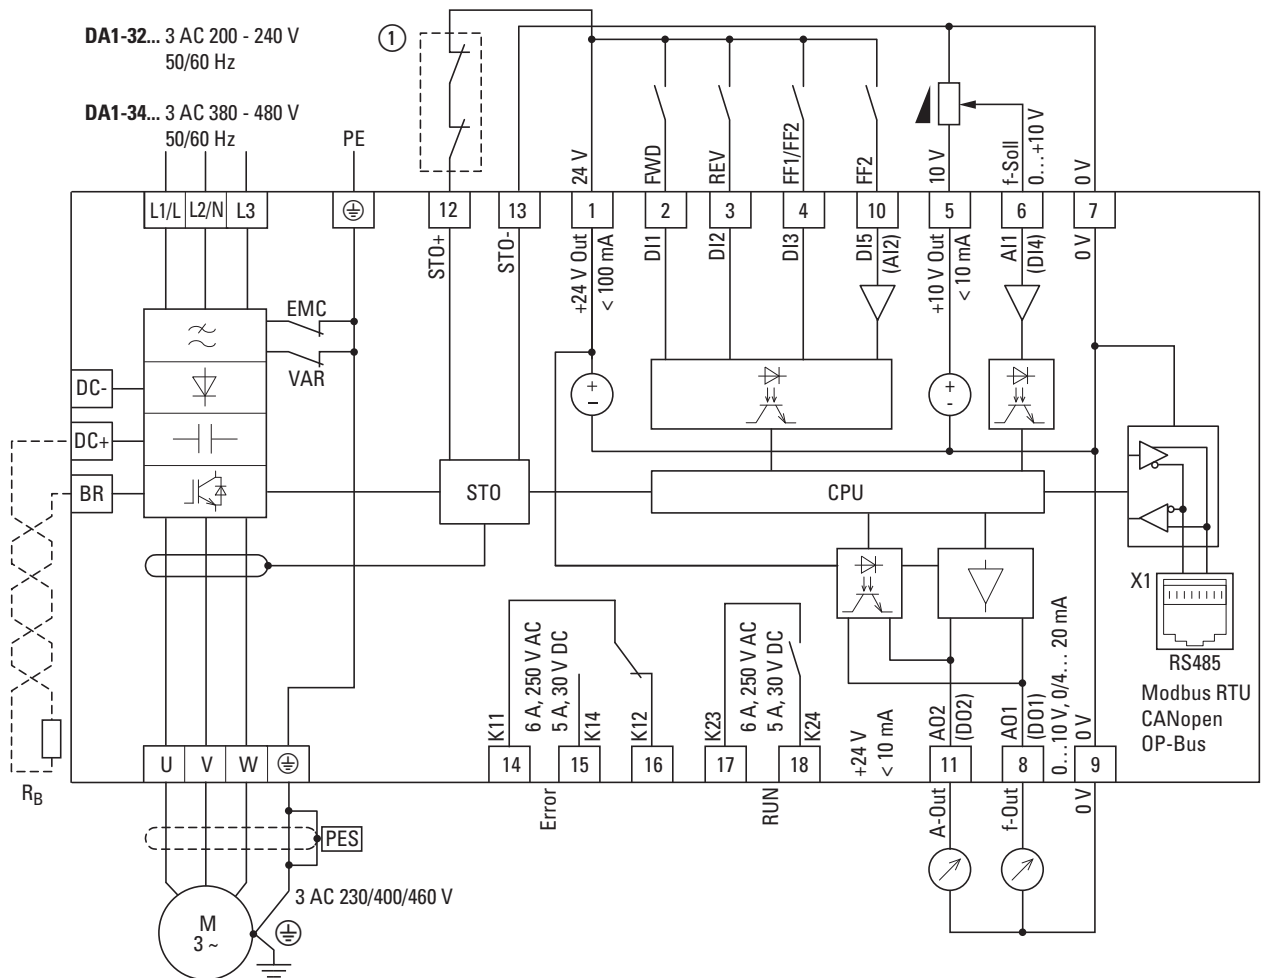

Figure 85:Block diagram for DA1-32..., DA1-34..., FS2 and FS3 frame sizes
① Direct enable signal for STO function or relay: Safe Torque Off (STO), SIL 2 (EN 61800-5-2) as in → Figure 85, page 116.